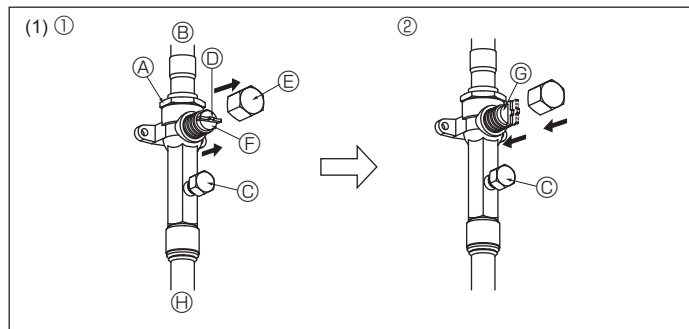
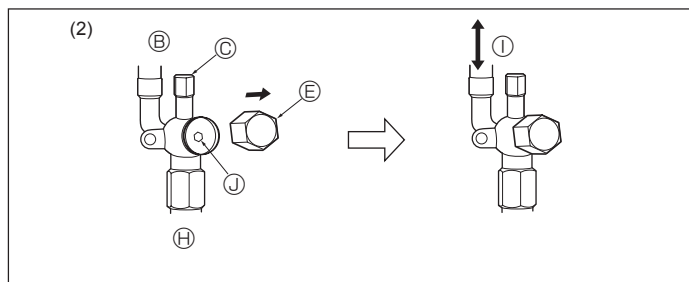

Fig. 4-9
Fig. 4-10
(1) Gas side (Fig. 4-9)
① Remove the cap, pull the handle toward you and rotate 1/4 turn in a counterclockwise direction to open.
② Make sure that the stop valve is open completely, push in the handle and rotate the cap back to its original position.
(2) Liquid side (Fig. 4-10)
① Remove the cap and turn the valve rod counterclockwise as far as it will go with the use of a 4 mm [3/16"] hexagonal wrench. Stop turning when it hits the stopper.
② Make sure that the stop valve is open completely and rotate the cap back to its original position.